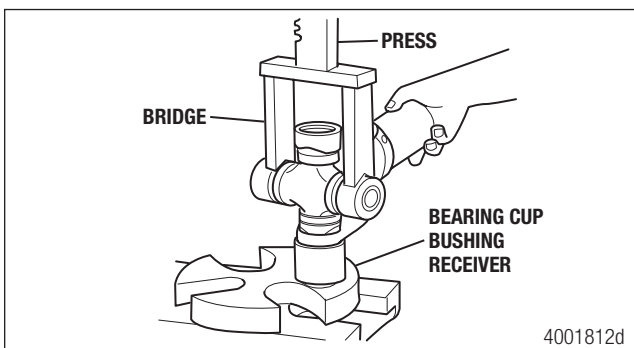
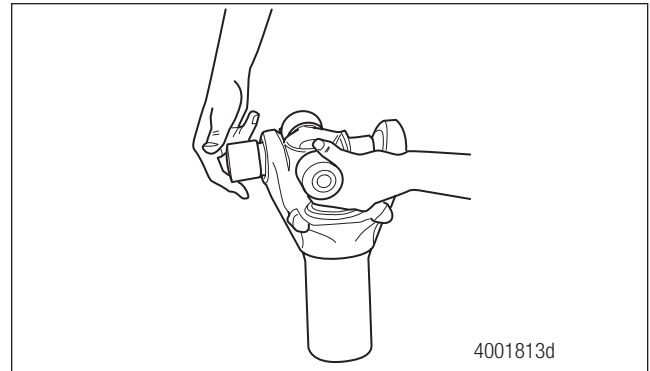

Figure 5.3
Figure 5.4
1. Place the universal joint in a suitable press bridge and bearing cup bushing receiver. Figure 5.3.
2. Press DOWN until the first round bushing loosens. Figure 5.3. Remove the round bushing. Figure 5.4.